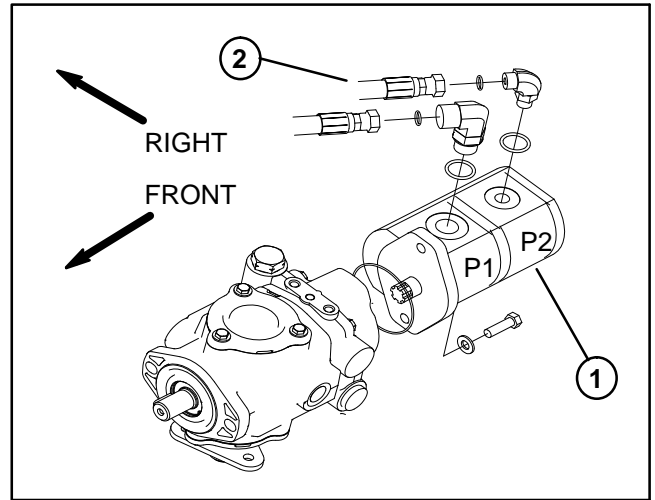

Figure 36
**NOTE:** Disconnect hose connection on the gear pump (P2) (Fig. 36). On Reelmaster 3550–D machines, the connection at gear pump (P2) leads to the steering control valve (P) port. On Reelmaster 3555–D/3575–D machines, the connection at gear pump (P2) leads to the lift control manifold (P) port.